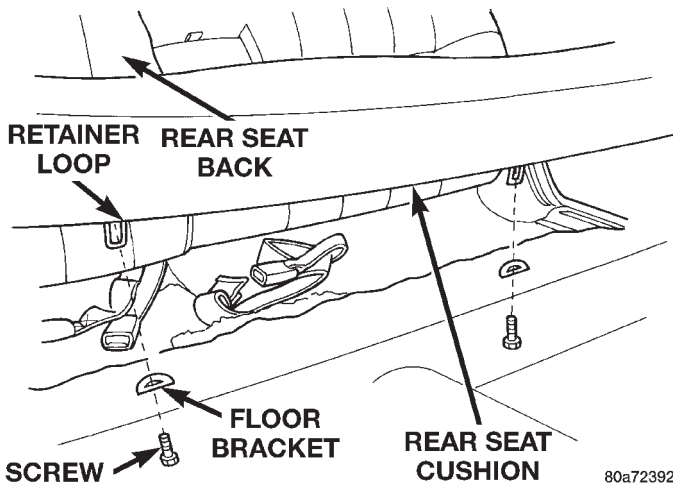

Fig. 4 Rear Seat Cushion
- (1) Pull upward at each end of the rear seat cushion to disengage retainer loops from cups in floor (Fig. 4).
- (2) Separate rear seat cushion from vehicle.